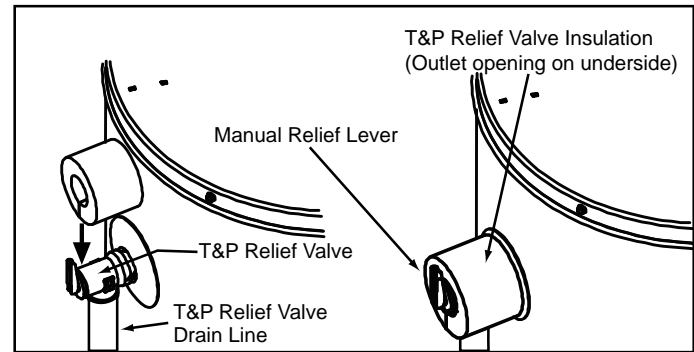

FIGURE 5
1. Locate the temperature and pressure relief valve on the water heater (also known as a T&P relief valve). See Figure 5.
3. Spread the slit open and fit the insulation over the T&P relief valve. See Figure 5. Apply gentle pressure to the insulation to ensure that it is fully seated on the T&P Relief Valve. Once seated, secure the insulation with duct tape, electrical tape, or equivalent. IMPORTANT: The insulation and tape must not block the discharge opening or hinder access to the manual relief lever (Figure 5). Ensure a discharge pipe is installed into the T&P valve discharge opening per the instructions in this manual.